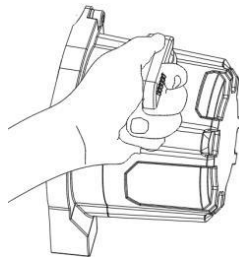

Fig. 3
3. Move the clutch handle (C) to the released position (Fig. 3).
4. Slide the loop of the strap (H) over the hook (E).